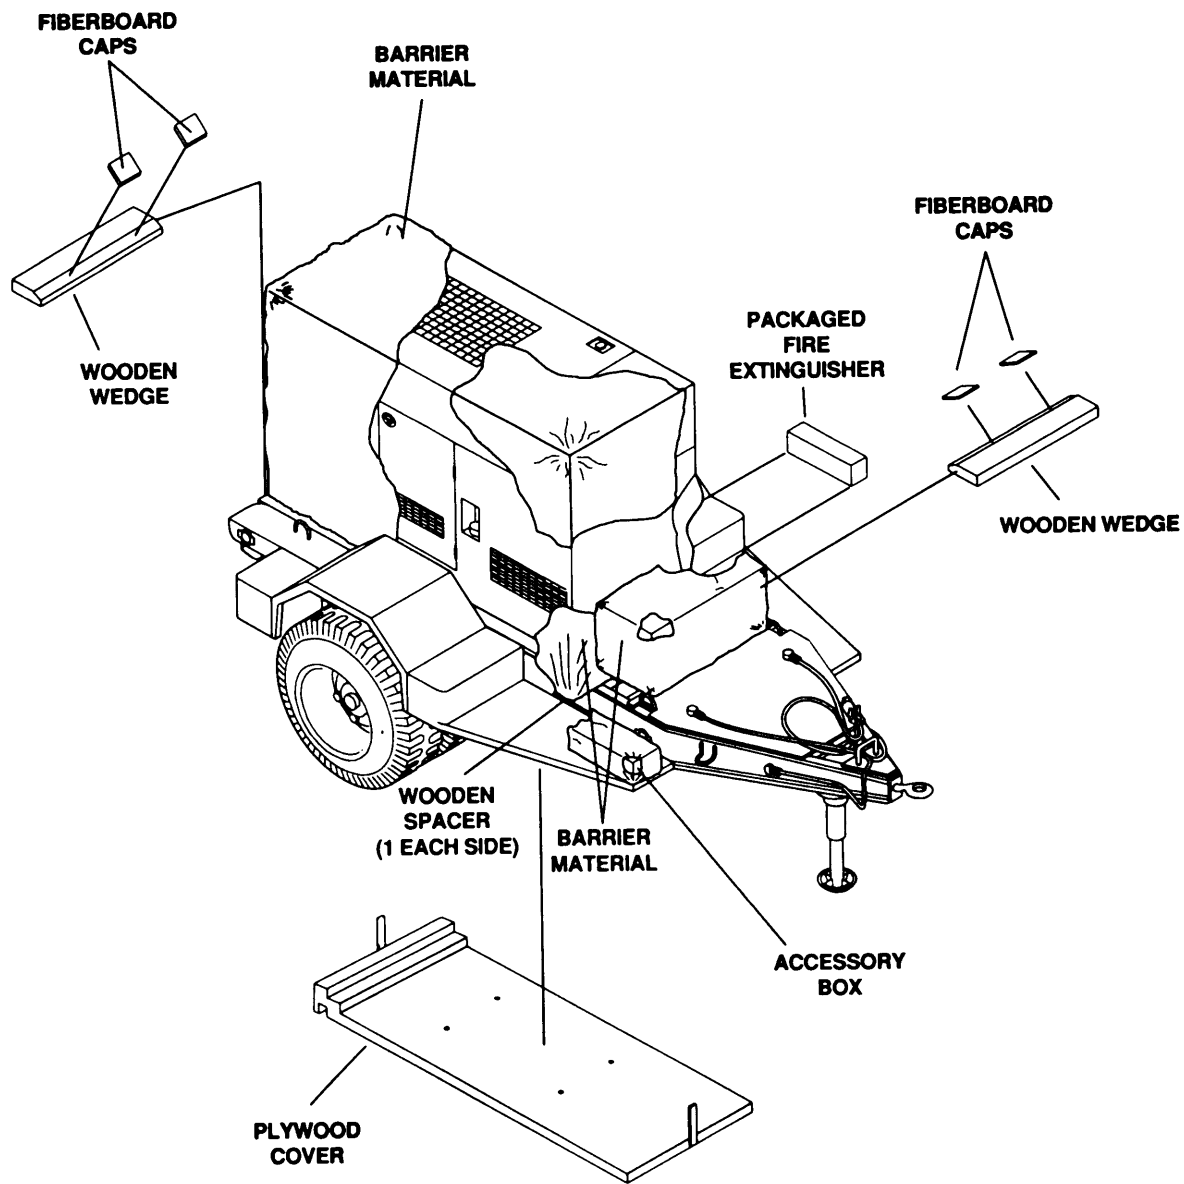

Figure 4-2. Unpacking Power Unit.
**4-4.1 Unpacking Power Unit.** (Refer to figure 41 and figure 4-2.) The power unit is boxed prior to shipment. The PU-805 and PU-806 are identical with the exception of the electrical output frequency of the generator sets. Two PU-805 Power Units make up the AN/MJQ-41 power plant. Therefore, the unpacking procedures are typical for each configuration. Each generator set is packed in place on its respective trailer. Before beginning the unpacking procedure, locate and remove Depreservation Guide.
- d. Refer to figure 4-2 and remove wooden wedges, spacers, and fiberboard caps from around generator set skid bases.